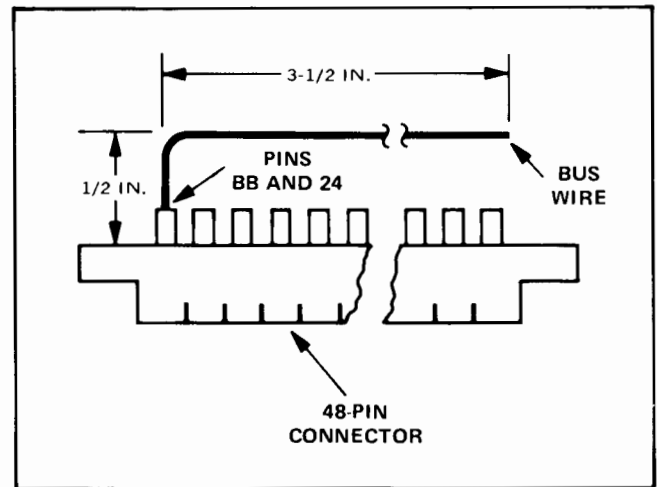

Figure 2-1. Bus Wire Details
2-10. Figures 2-1 and 2-2 show details of cable fabrication. The procedure for wiring the 48-pin connector is as follows:
c. Prepare a bus wire from 22-gauge bare-copper wire and solder it to pins BB and 24 of the connector as shown in figure 2-1.